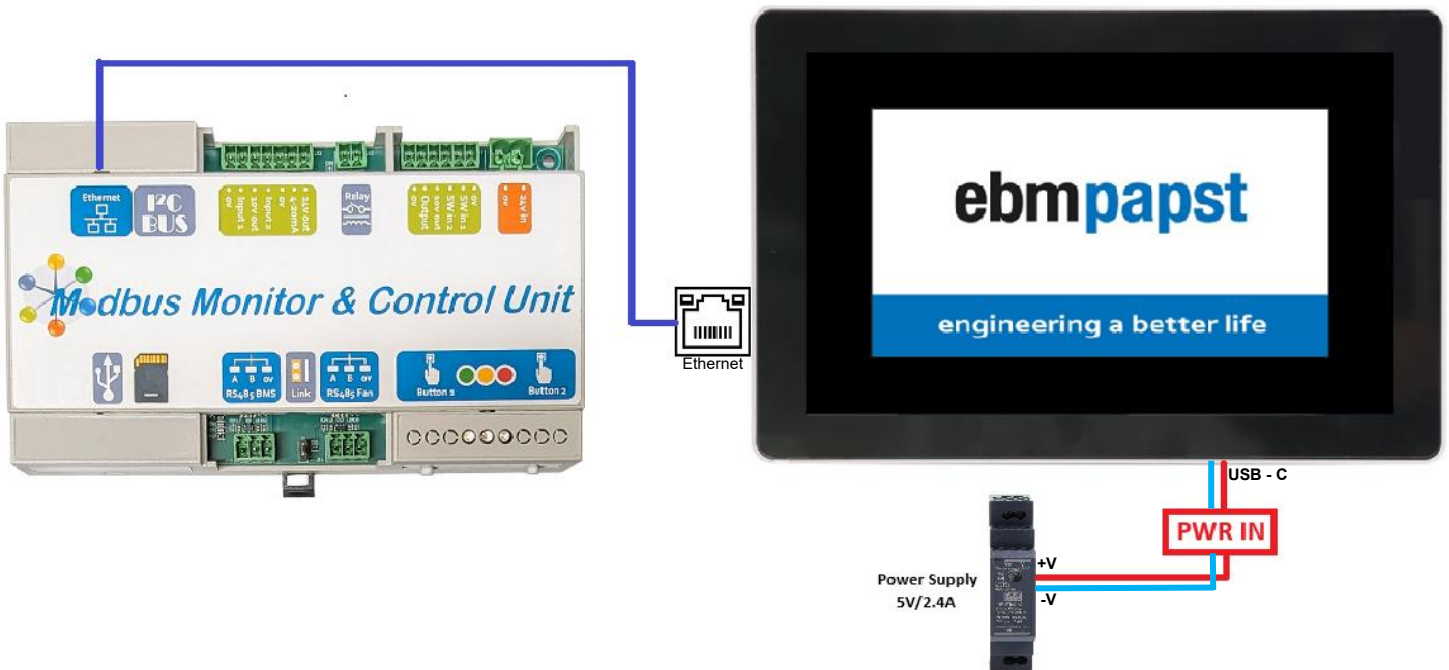

Figure 4: HMI with MMCU
1. Wire the Power Supply Unit as shown in Figure 4.